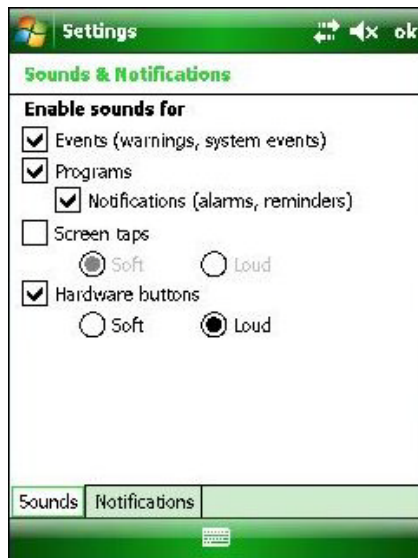

Figure A.7 Sounds & Notifications Screen
- 1 On the **Sounds & Notifications** screen, click whichever sound you want to enable. See Figure A.7 on page A-6.